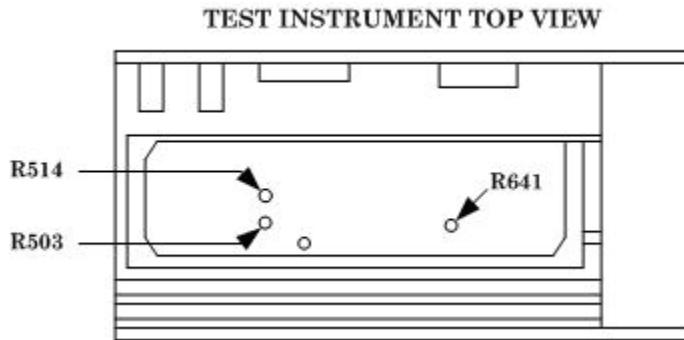

Figure 4. Adjustment locations.
- (1) Press **SHIFT-INSTR PRESET** pushbuttons, **PARAMETER-LEVEL** pushbutton, then press **ON/OFF-OFF** key.
- (2) Remove top cover.
- (3) Press pushbuttons as listed in (a) through (f) below:
- (4) Adjust R514 (fig 4) for a 0 ± 0.1 dBm power indication (R).
- (5) Press TI **PARAMETER-RF** pushbutton, enter **DATA 8** numerical value, and press **ENTER/UNITS MHz** key.
- (6) Using measuring receiver RF power measurement techniques, measure RF power and set **RATIO** on.
- (7) Press TI **PARAMETER-RF** pushbutton, enter **DATA 7.999** numerical value and press **ENTER/UNITS MHz** key.
- (8) Set measuring receiver to measure RF power at 7.999 Mhz.
- (9) Adjust R641 (fig. 4) for a 0.00 ± 0.05 dBm power indication on measuring receiver. (R)
- (10) Press **SHIFT-INSTR PRESET** pushbuttons, **PARAMETER-LEVEL** pushbutton, and press **ON/OFF-OFF** key.
- (11) Replace top cover.